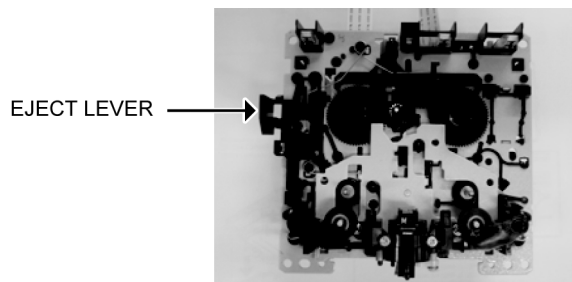

Figure 2
1. Pull up the EJECT lever using a rubber band. (Figure 2)